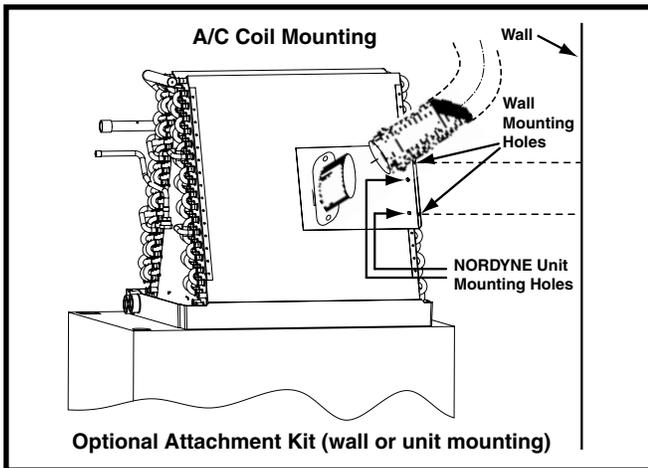

Figure 2. Downflow Electric Furnace with A/C
NOTE: An optional VentilAire™ attachment kit (P/N 919328) may be purchased to attach the plastic inlet fitting to the coil or wall in Heat/Cool and Heat only (no coil) applications. This bulk kit is supplied with 24 brackets and fasteners. The plastic inlet fitting snaps into the bracket opening without screws. See Figure 2.
- **Electric Furnace with Nordyne A/C coil** - Align and fasten the VentilAire™ attachment bracket with the holes in the coil end-plate flange. See Figure 2.
- **Electric Furnace with non-Nordyne A/C coil** - When using other brands of coils, the installer has the option to attach the bracket to the wall of the furnace cavity. Fastening must penetrate into a framing member or sheetrock anchors. See Figure 2.